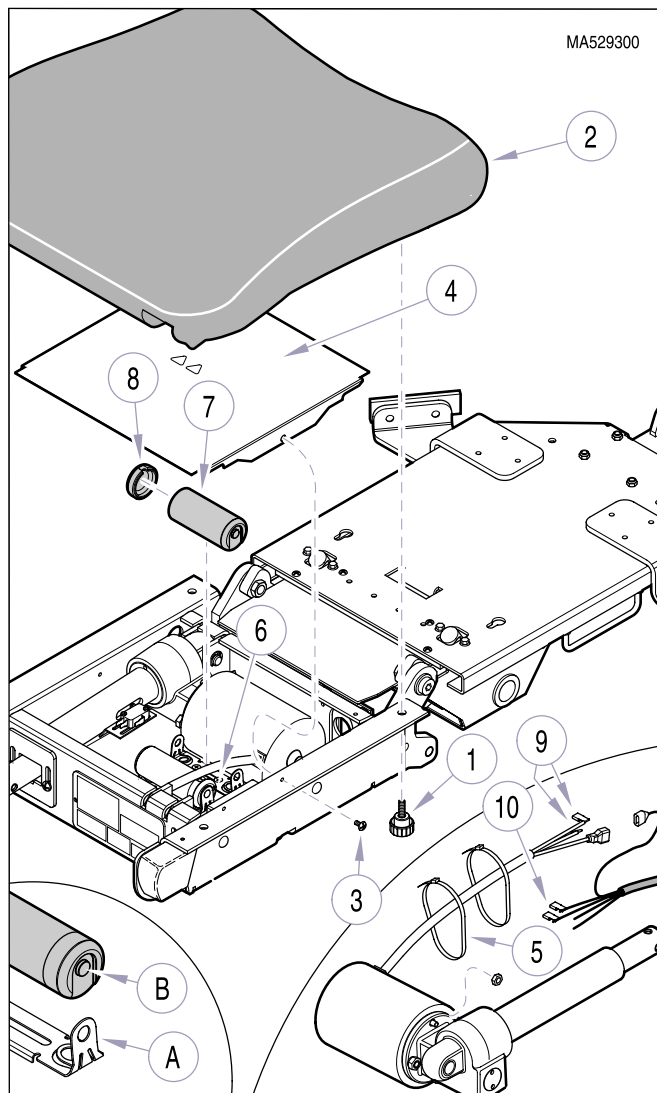

Figure 4-11. Back Capacitor Removal / Installation
- (1) Unplug table power cord from outlet receptacle.
- (2) Remove four knobs (1, Figure 4-11) and seat upholstery (2).
- (3) Remove two screws (3) and electrical cover (4).
(4) Cut two cable ties (5); then using a screwdriver, pry tab (A) of mounting bracket (6) outward; then remove back capacitor (7) from mounting bracket.
(5) Remove cap (8) from back capacitor (7).